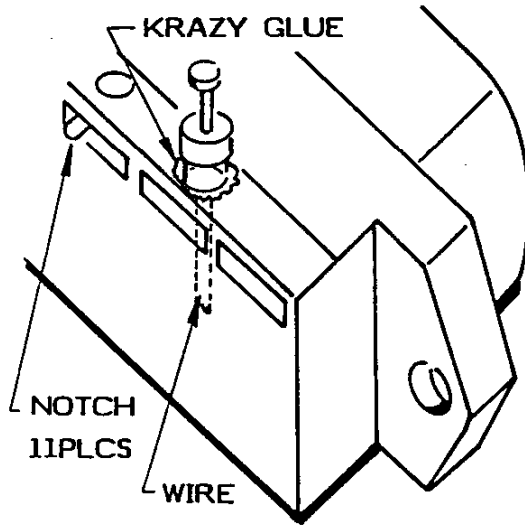
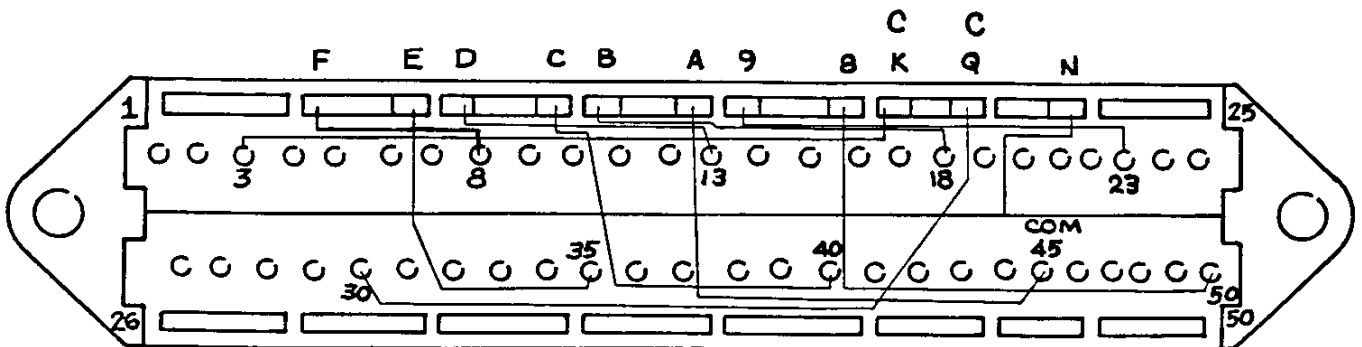

Figure 6.17 Alignment Fixture 'A' Terminal Post
Figure 6.18 Alignment Fixture 'A' Wiring Diagram
3. Install terminals with crazy glue as shown in Figure 6.17 and wire as you go, as shown in Figure 6.18.
NOTE: Follow wire routes as shown in Figure 6.18.